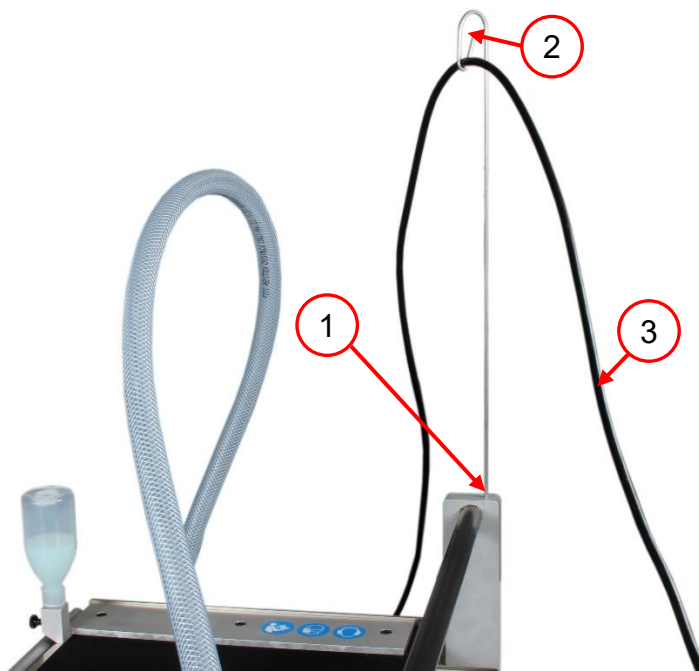
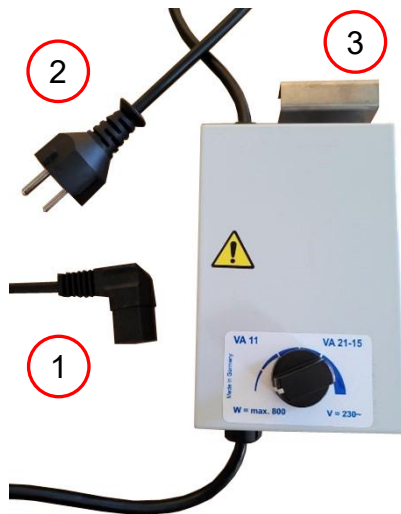

Figure 28 Fitting the VARGA VA 11 cable retaining spring
Figure 30 Speed Controller VARGA VA 11
15. Hook the cable retaining spring (2, Figure 28) into the opening in the rear guide rod holder (1, Figure 28).
18. Place the connection plug of the speed controller (1, Figure 30) around the precision table saw and hook it into the cable retaining spring (2, Figure 28).
21. Connect the mains plug of the speed controller (2, Figure 30) to the power supply.